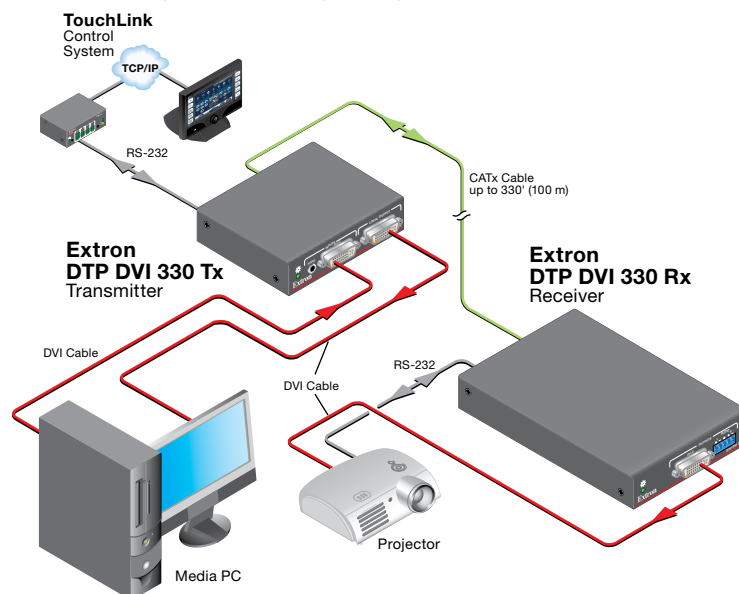

Figure 1. Typical Transmitter and Receiver Application
The Extron DTP DVI 330 Tx/Rx transmitter and receiver pair (see figure 1) extends the usable distance of DVI digital video, optional analog audio, and bidirectional RS-232 and infrared (IR) control signals over one Extron XTP DTP 24 shielded twisted pair (STP) cable (recommended) or Category (CAT) 5e, CAT 6, or CAT 6a STP or unshielded twisted pair (UTP) cable. The DTP DVI 330 can also extend HDMI video, which may include embedded audio, with the appropriate adapters. The video, audio, and control signals can be transmitted up to 330 feet (100 m).